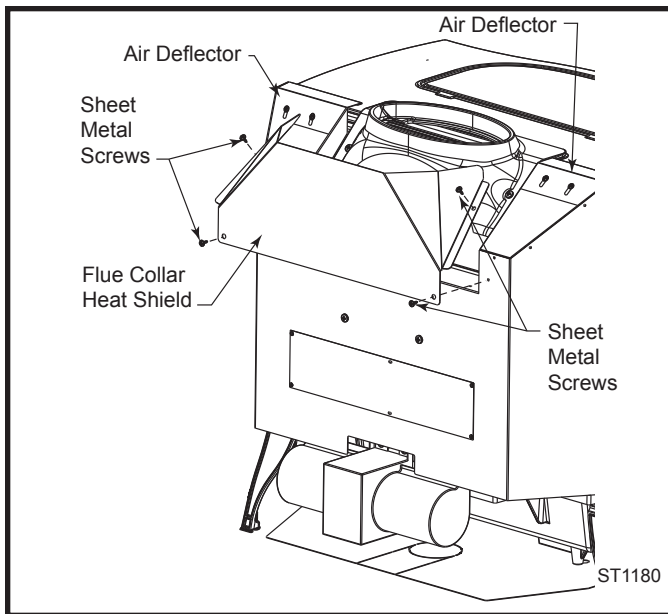

Fig. 17 Install flue collar heat shield.
If you have the optional fan kit, you may decide to adjust the air deflector to blow heat across the top of your stove. (Fig. 17) Loosen the two (2) screws on each side and raise or lower the deflector. After adjustment, tighten the screws.
**WARNING:** The flue collar heat shield must be attached to the Defiant stove. Use four #10 sheet metal screws supplied to secure the flue collar heat shield to the rear of the stove. (Fig. 17)